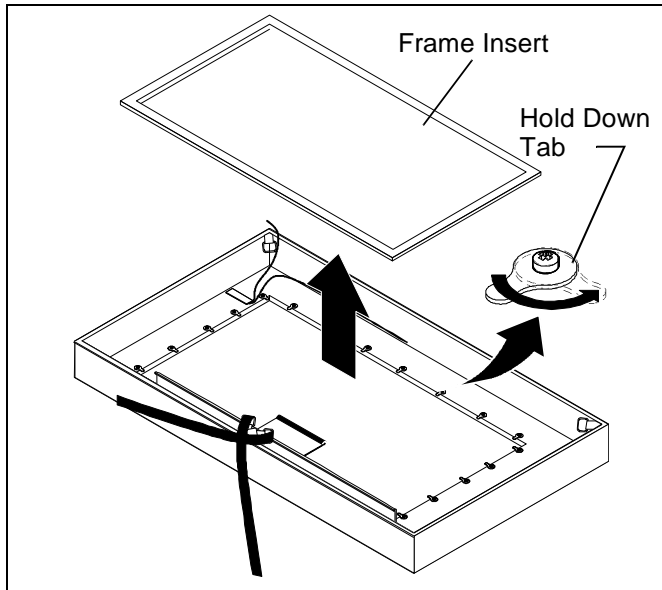

Figure 10
2. Turn hold down tabs to left or right. (See Figure 10)
3. Remove frame insert from frame. (See Figure 10)